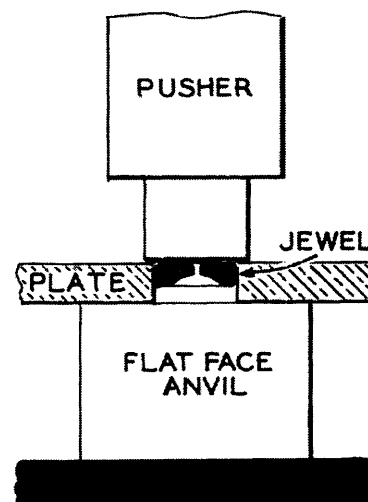

Fig. 14-14
13. Press on lever gently until the face of the pusher comes in contact with the jewel, increasing the pressure slowly until the jewel has been forced into the hole. The pusher should now be flush with the plate and the jewel securely in place, figure 14-14.